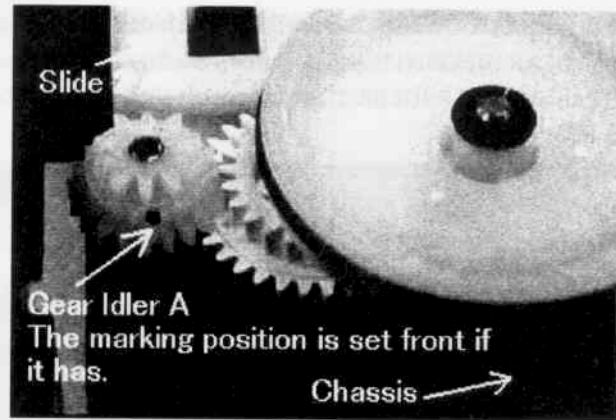

Fig. 11
10) When you assemble DRAWER block with CHASSIS, it is important that linear gears in CHASSIS gang well with GEAR IDLER A(39). While GEAR IDLER A isn't ganged well, turn PULLEY B(32) (Fig. 3) a bit and make them ganged. (Take care not to turn it much. GEAR IDLER A should be in +/- 45 degrees from the center.) (See Fig. 11)
11) Push in two hooks at the both sides as they sound click. (You may fix the right side hooks first before you move Drawer block inside in item 9).
12) Put COVER(23) and mount six SCREWS(115).